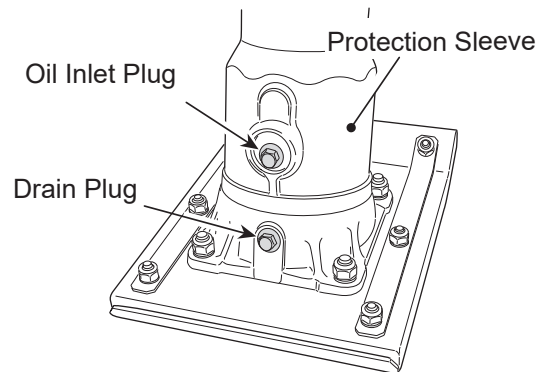

Fig.1
5. Check the main body oil from the oil inlet plug on the protection sleeve on level ground. (Fig.1) Fill to the edge of the oil inlet hole with the ecommended oil type.